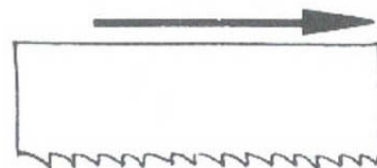

Fig.6
- Insert the new blade first between the guides and then onto the rubber-coated pulleys, with the teeth facing as shown in fig.6.